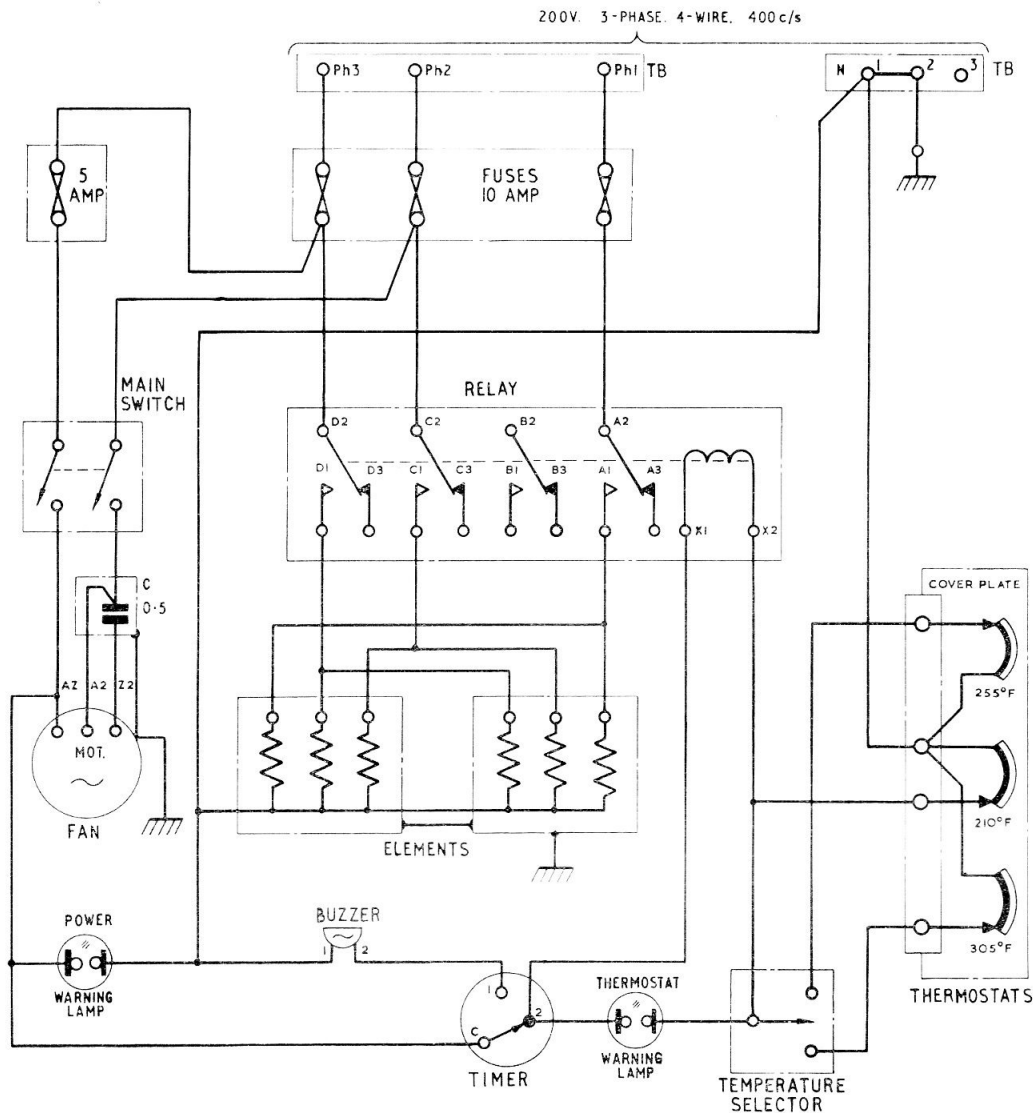

Fig. 3. Circuit diagram
5. Referring to fig. 3, with the timer set to the required time, the temperature switch set to the required temperature, and the MAIN switch set to ON, the supply is routed via phases 2 and 3 fuses through the motor fuse and double pole MAIN switch to the motor and motor capacitor.